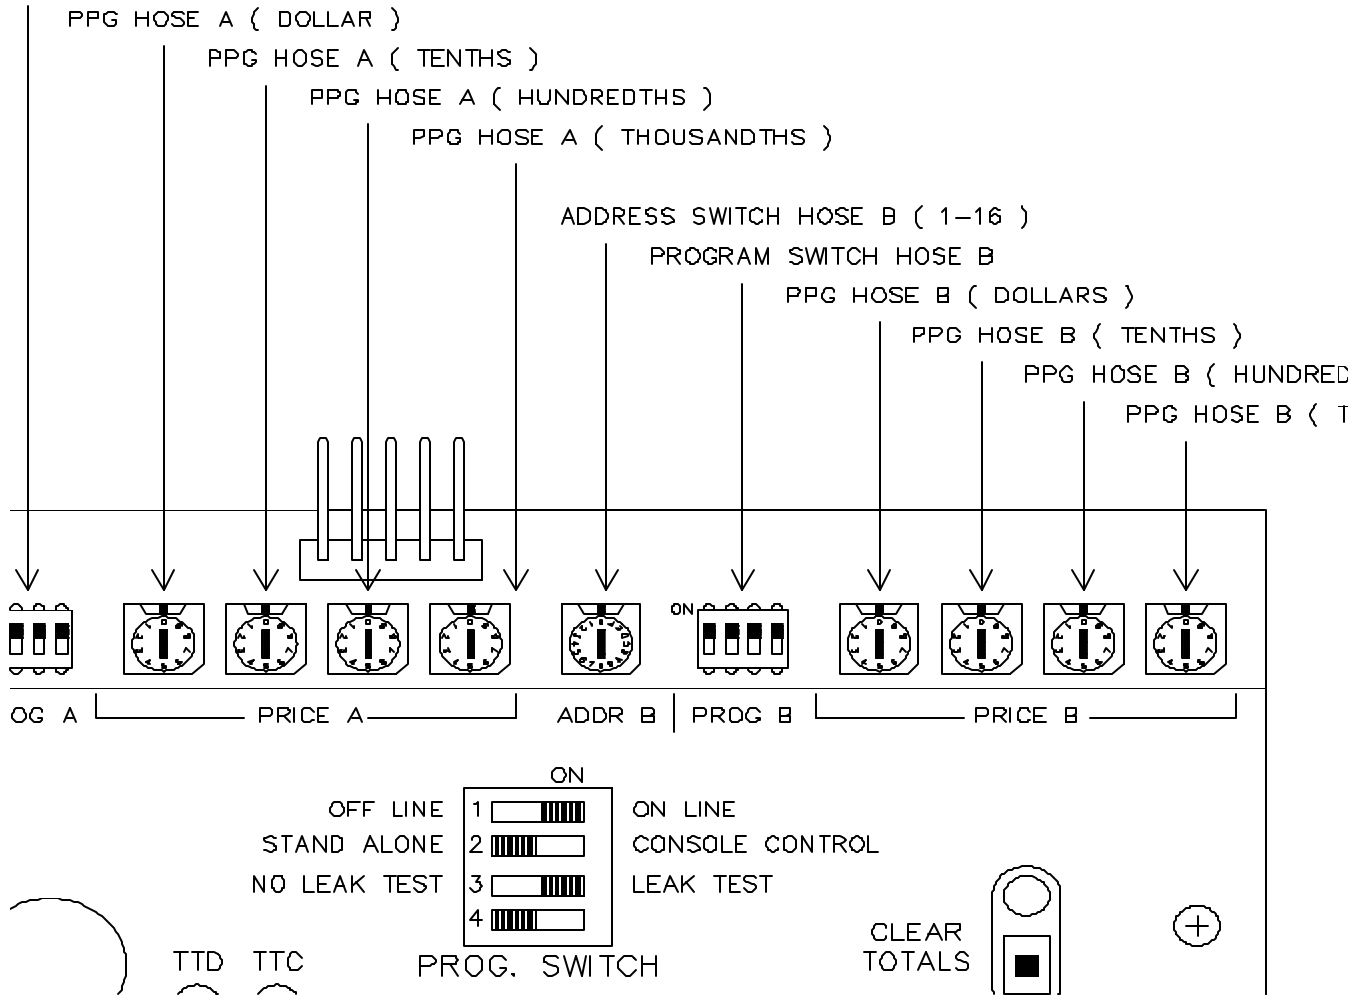
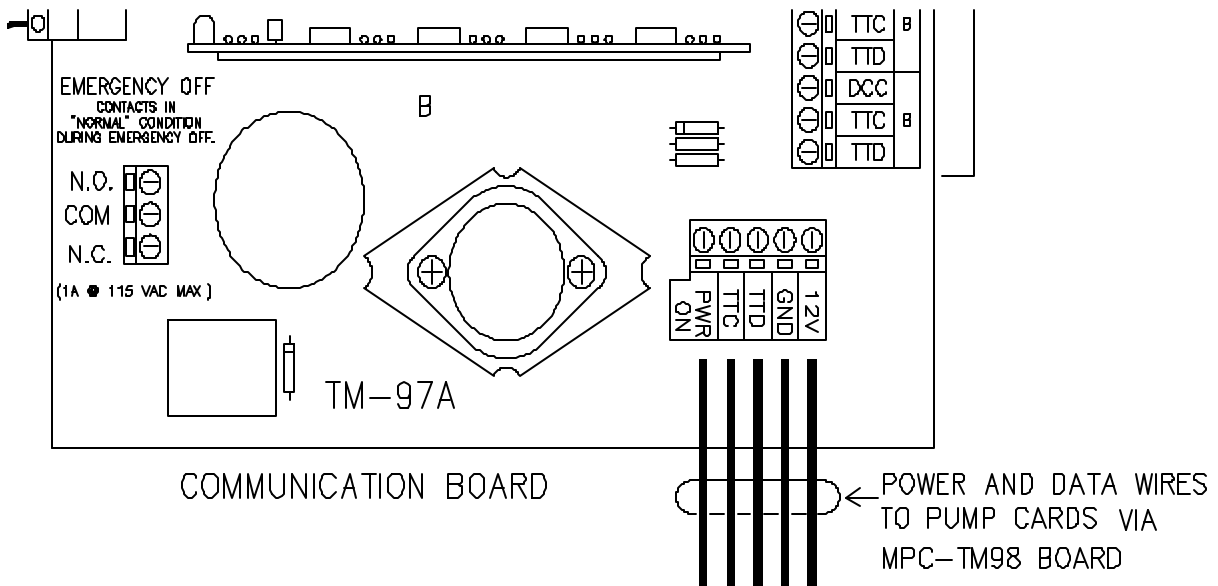

Figure 6 MPC-TM96 Pump Card Switch Description
Figure 7 Emergency Off Connector Located in Main TMS MPC-162 IC Box
- 3. Pump Card Box:** Secondary pump card boxes do not require an AC connection. Only the MPC-TM96 pump cards inside the Pump Card Box require an AC connection. See figures 6 and 7, on pages 12 and 13, for wire diagrams of MPC-TM96 pump cards and 162 pumps/dispensers.
2. Connect the Tokheim 162 data signal and valve wires from each fueling position to the MPC-TM96 pump card(s) terminal strips in the TMS MPC-162 Interconnect Boxes. Refer to specific wire diagrams on page 11, figure 6 for dispensers and page 12, figure 7 for pumps.